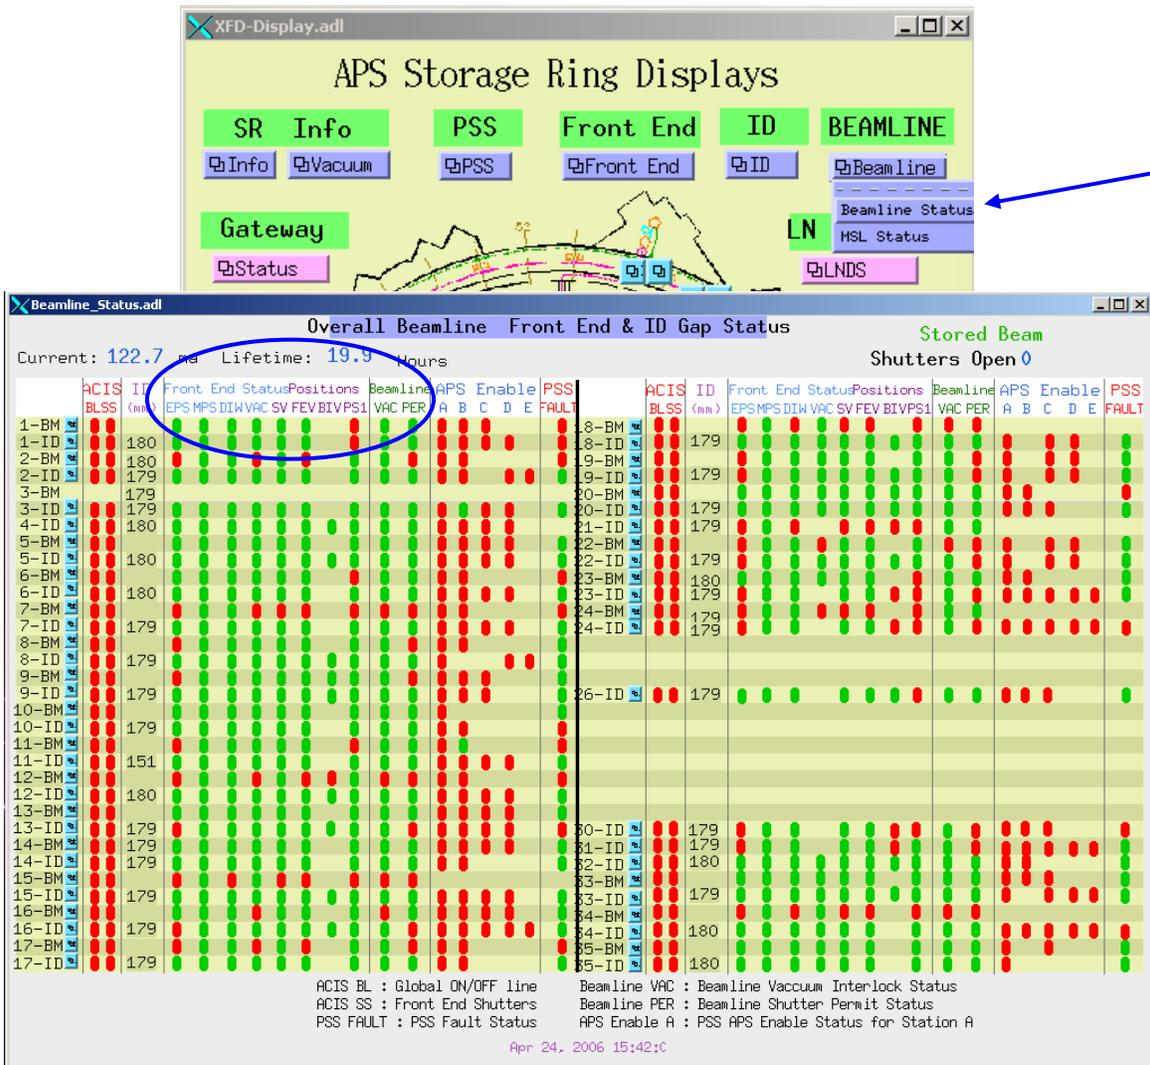

Figure 5: Path to Beamline Status screen.
3. Occasionally, a user suspects that there has been a FEEPS fault, but only the BLEPS has faulted. The Beamline Status screen (Figure 5, next page) can be helpful in troubleshooting.